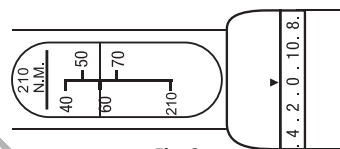

Fig. 2
- The torque wrench is now set to 66 Nm (Fig. 2).